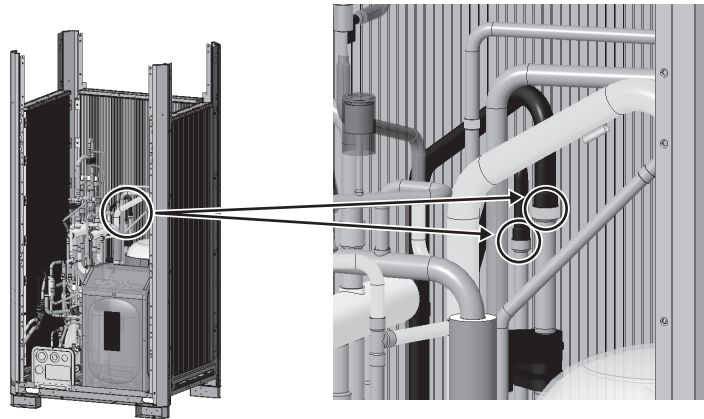

Fig. 46 Brazing point of the rear heat exchanger piping
- (1) Remove the brazing from the piping. (Two areas to remove brazing: Fig. 46)